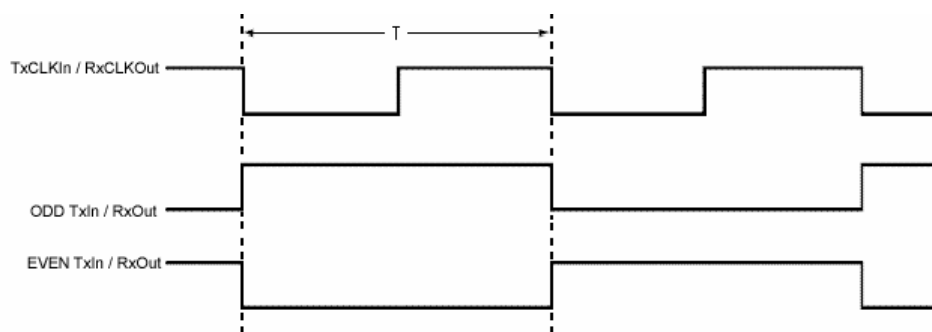

Figure 7. Worst-Case Test Pattern
| I CCWR                   | 4:28 Receiver Power Supply Current for Worst Case Pattern with Load (15) | C L =8pF, Figure 7                               | 32.5MHz |       |                 | 70    | mA |